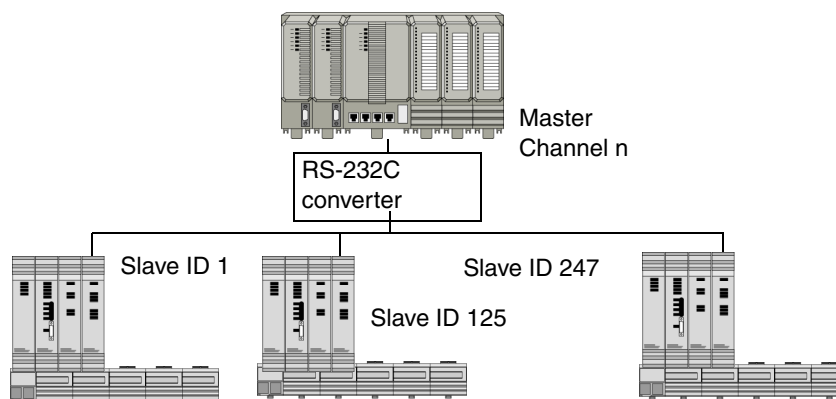

Figure 23. Example of multidrop communication.
In multidrop communication several slave systems are connected to a master, see Figure 23. Communication takes place between the master and one slave at a time. Direct communication between slave systems is not possible. A particular message from the master is sent to all slaves, but only the slave, whose unique identity corresponds to the identity contained in the message accepts the data.
- The COMLI communication protocol can administer a maximum of 247 slave identities, see Figure 23).